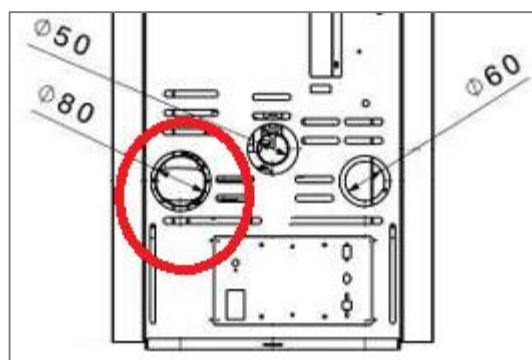

Figure 3
3. There will be a register in the lower part of the evacuation conduit that allows the elimination of solid and liquid waste. This register is normally incorporated into the T that will be immediately attached to the outlet of the stove (see figure 3).